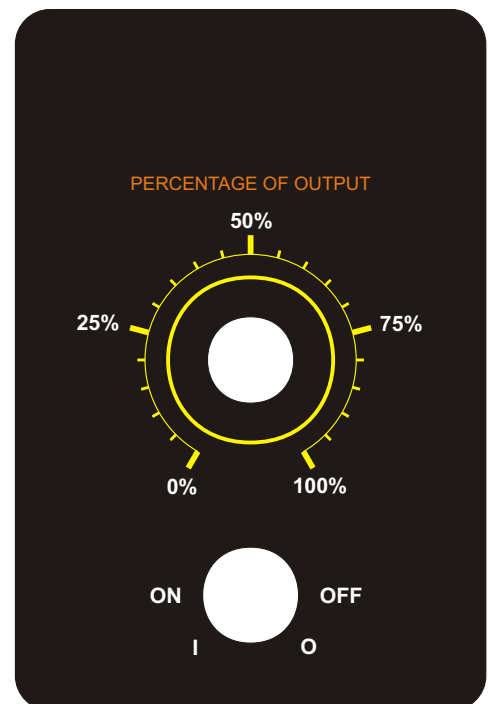

FIG. 5.1
5.1 How to Adjust The Output -Fixed Cycle Timers (fig. 5.1)